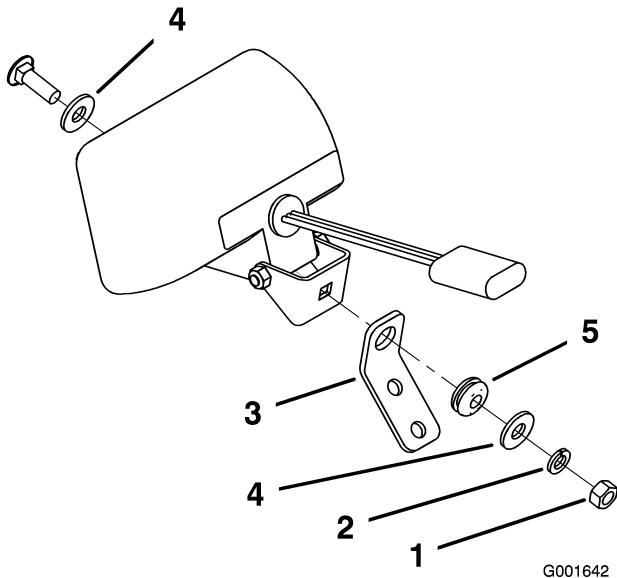
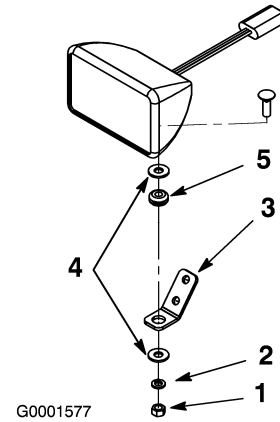

Figure 7
Figure 8
1. Remove the nut and washer from one of the lamps without a switch (Figure 7 for Z400 series mowers or Figure 8 for Z500 series mowers).
2. Secure the lamp onto one of the front lamp brackets as illustrated for your mower in Figure 7 or Figure 8, using 2 flat washers, a rubber grommet, and the washer and nut you removed from the lamp in step 1.